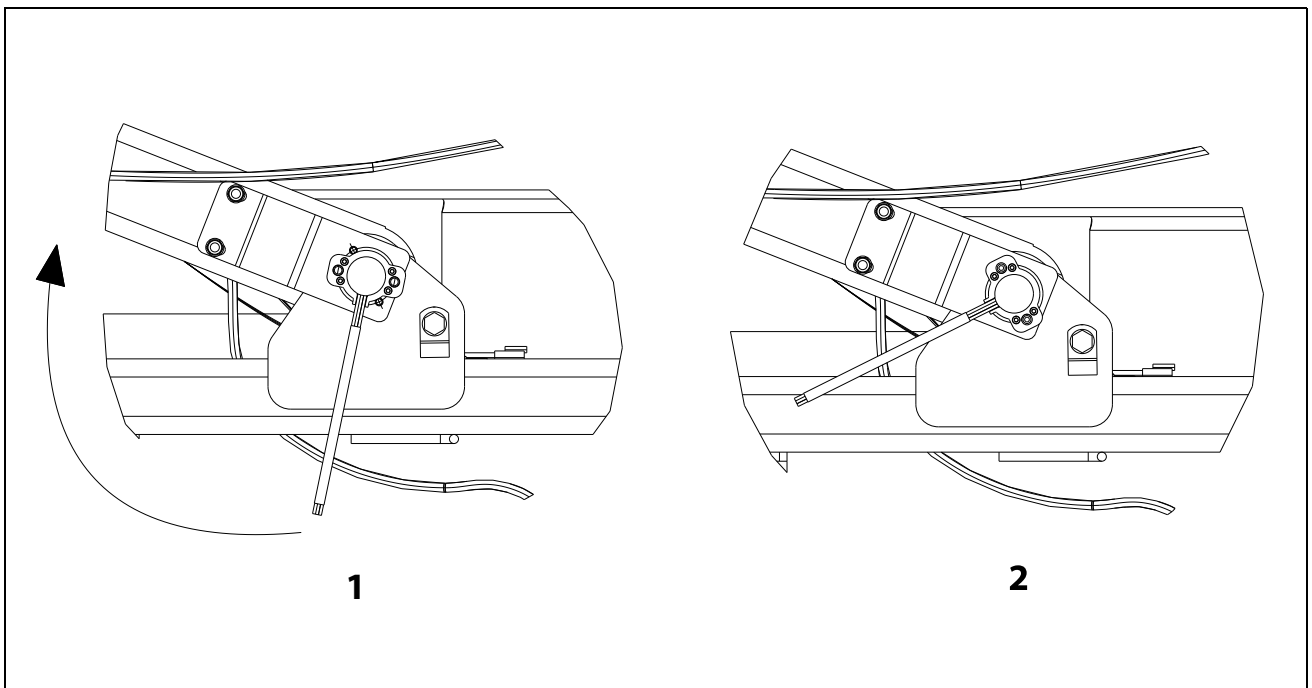

Figure 3-19. Elevation Sensor Installation
See Figure 3-19.
4. With the Angle sensor and bracket oriented as shown (1) in (Figure 3-19.), gently slide keeper pin into sensor pin from other end. Secure keeper pin with mounting hardware.
5. Gently rotate sensor and bracket to load sensor spring until holes in the bracket line up with slots on frame mounting plate (2) (Figure 3-19.). Rotation is approximately 120°, or 1/3 of a turn.